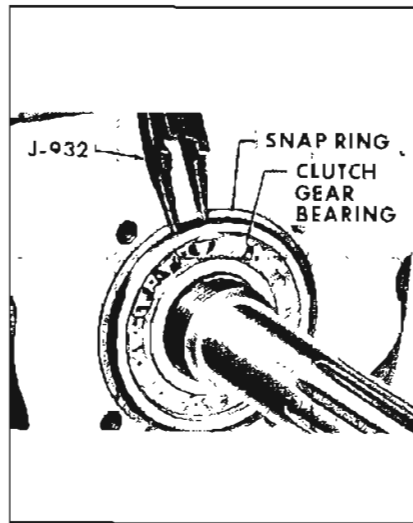

Figure 4-15—Clutch Gear Snap Ring Removal
8. Remove clutch gear bearing snap ring. See Figure 4-15.